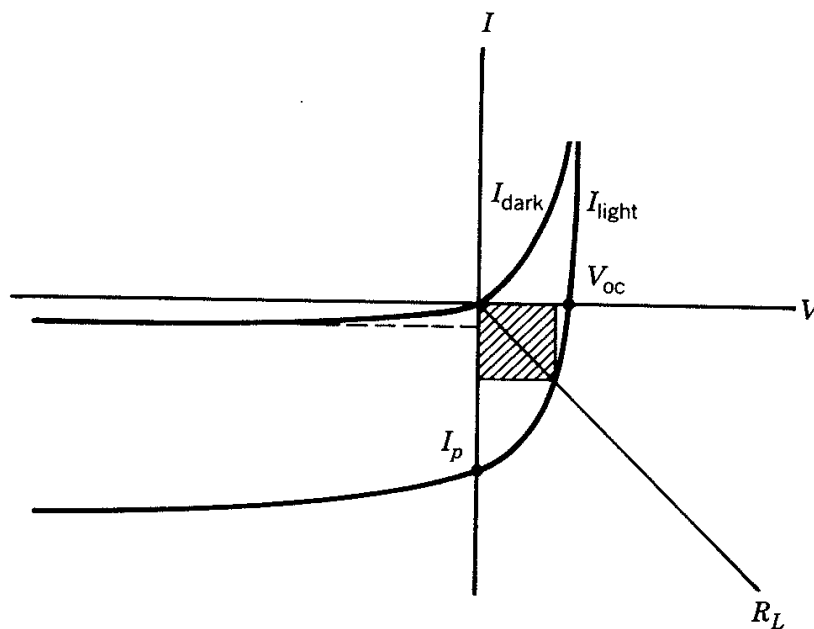

Figure 12-4
Solar cells can provide power by operating into a finite load resistance R_L as shown in Figure 12-4. This results in power generated, represented by the shaded area in the figure. This power is the product of (some) VI , where $0 < V < V_{OC}$, and $0 < I < I_p$.
- [Q4] Calculate the load resistance R_L needed to operate the cell at this “operating point” on the IV curve. Refer to Figure 12-4.